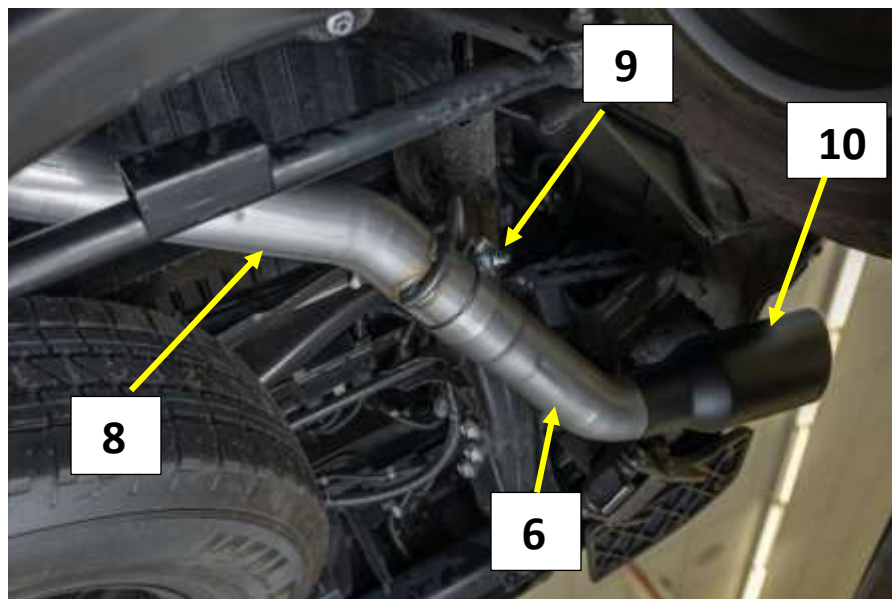

Figure 9
14. Install a 3" band clamp (9) on to the expanded end of the tailpipe extension (6). Fig.9
15. Install the tailpipe extension (6) on to the tailpipe outlet (8) and tighten the clamp to allow for adjustment.
16. Install the 4.5" Black Tip (10) on to the tailpipe extension. Tighten the clamp to allow for adjustment.